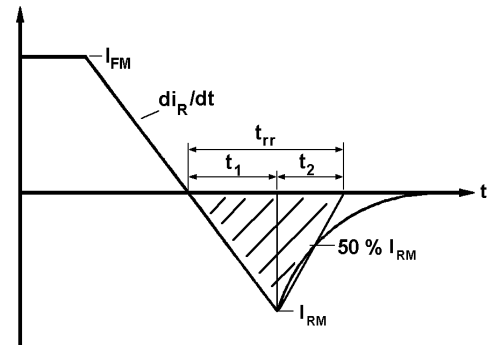

Fig. 1
- (i) Q_{ra} is based on 50% I_{rm} chord as shown in Fig. 1